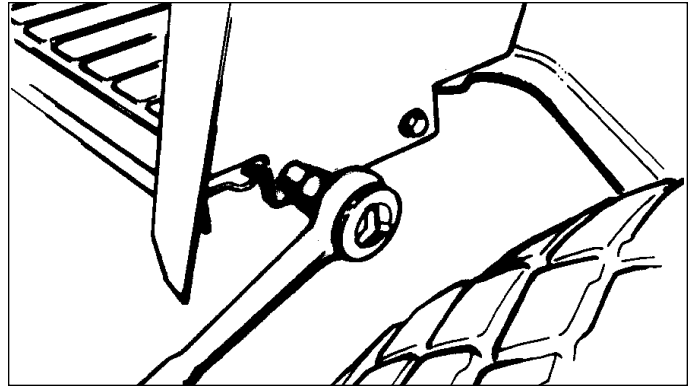

Figure E-4. Removal of Front Bolts
3. Remove the two bolts (located at the rear of the foot rests, Figure E-4) connecting the seat deck to the tractor frame.